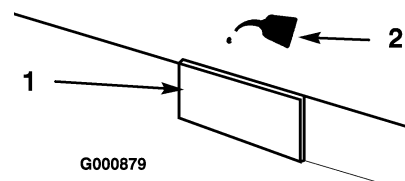

Figure 25
- C. Soak the element in new engine oil. (Figure 25). Squeeze the element to remove excess oil.